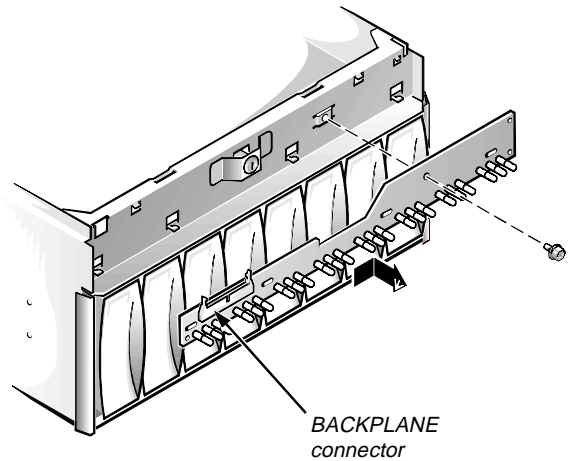

Figure B-7. Removing the Control Panel Board
3. Disconnect the ribbon cable from the BACK-PLANE connector on the control panel board (see Figure B-7).